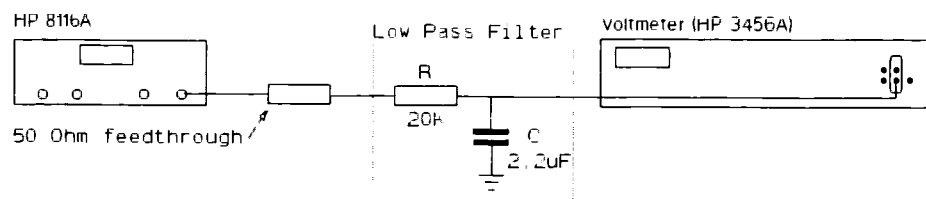

Figure 9-2. Low Pass Filter
- Low pass filter (Refer to Figure 9-2)
11. Connect the HP 8116A's main output to the DVM, enable the DVM's built-in filter and set the DVM to read DC voltages. If the DVM does not have a built-in filter, use an external low pass filter, as shown in Figure 9-2.
28. Connect the HP 8116A's main output via a 50 Ω feedthrough terminator to the DVM, and enable the DVM's built-in filter. If the DVM does not have a built in filter, use a low-pass filter as shown in Figure 9-2.
43. Connect the HP 8116A's main output via a 50 Ω feedthrough terminator to the DVM, and enable the DVM's built-in filter. If the DVM does not have a built-in filter, use a low-pass filter as shown in Figure 9-2.